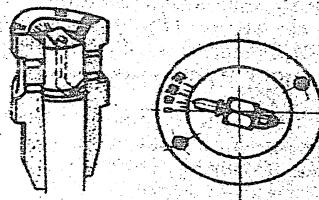

Fig. 36
10. Determine the end of fuel supply by removing fuel from the plunger barrel with a piece of clean cheesecloth and proceed to turn the fuel pump spindle counter-clockwise until fuel starts leaking from the central hole. Make sure that the stroke index pointer is within 17—19 scale divisions (see Fig. 36).